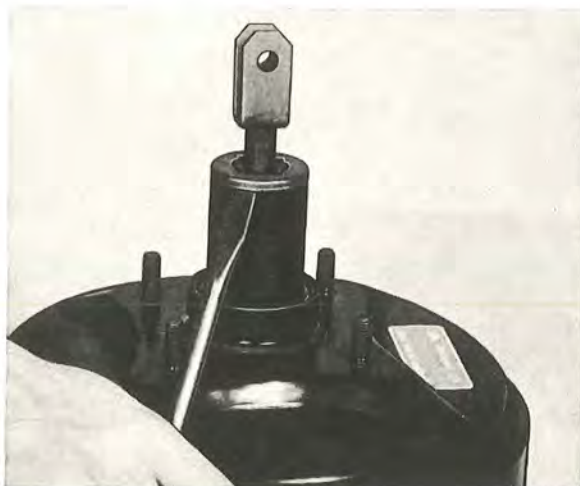

Fig. 5-75. Removing the washer
6. Remove the protective washer, see Fig. 5-75, from the cylinder.